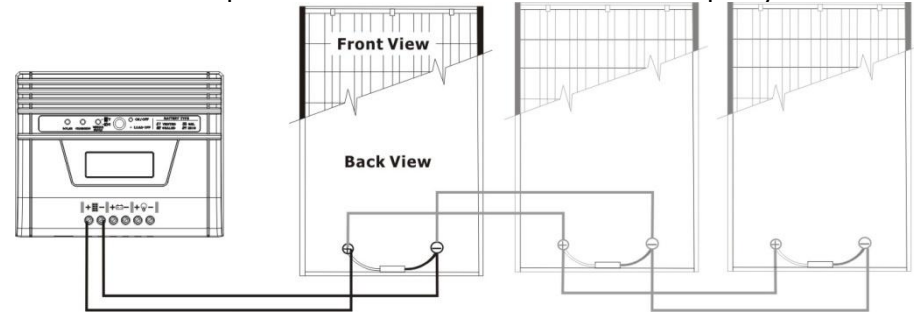

Fig. 9
- 3) **Multiple solar modules in parallel connection (Refer to Fig. 9):** Each module's voltage must be equal to the Nominal DC Voltage of the unit. And, the sum of their solar power must not exceed the maximum capacity of the unit.